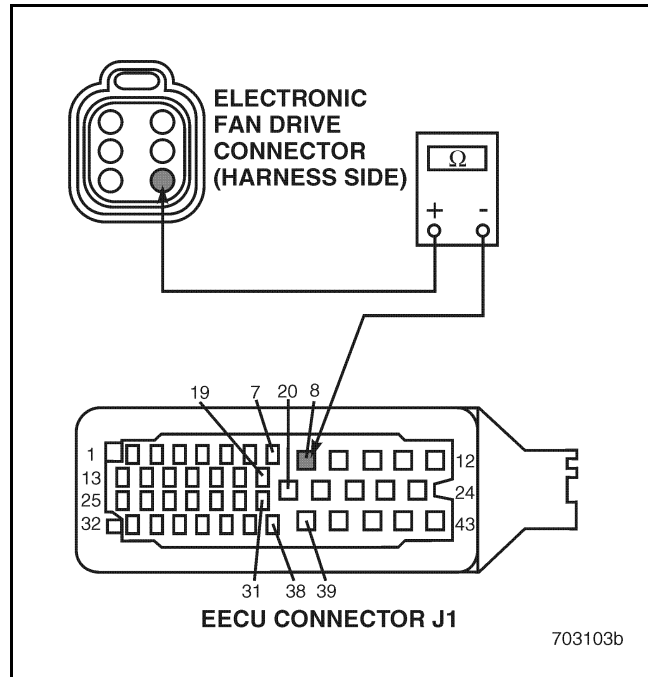

Figure 537
4. Check for continuity between pin 4 of the Electronic Fan Drive harness connector and EECU connector J1 pin 8 (see Figure 537).